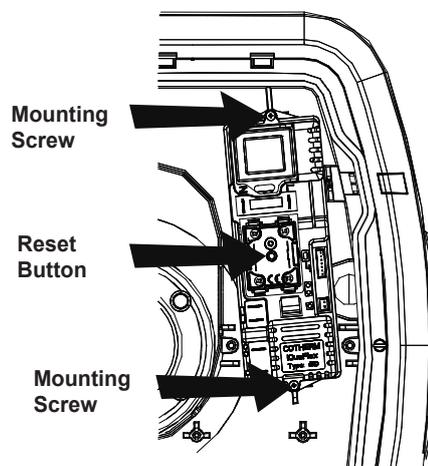

Figure 14: iBD removal
- ▶ Unscrew the two securing screws that secure the iBD to the casing, (see fig 14 below).
- ▶ Screw the two securing screws to secure the iBD to the casing, (see fig 14).
The product detects that the safety cut out has opened the electric contacts removing power from the heating circuit. The origin is likely to be an unexpected overheat condition in the water tank. Flush the tank through with cold water to cool it down before resetting (See Fig 14 page 27).